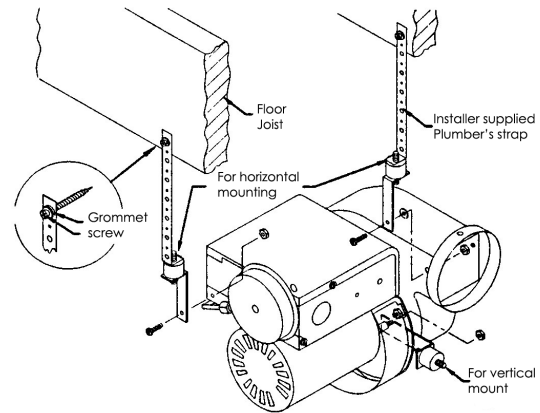

Fig. 2 Vibration mounts and recommended support
1. Remove vibration mounts, nuts and washers from parts bag. Install on power vent motor as shown in Fig. 2.